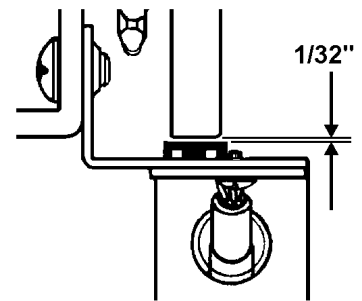

Figure 2B
5. Use Hand Wheel to turn Press and check that gap between magnet and sensor is $1/32"$, $\pm 0.010"$. Adjust gap by loosening sensor mounting screws and moving bracket [Figure 2B].